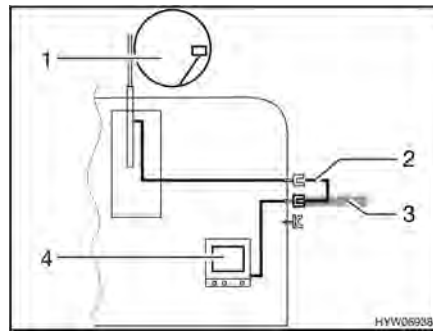

Fig. 63 TV inside the vehicle
- TV inside the vehicle (Fig. 63,4): Connection to roof antenna (Fig. 63,1) with connection cable (Fig. 63,2)
- TV inside the vehicle (Fig. 63,4): Connection to external antenna (Fig. 63,3)